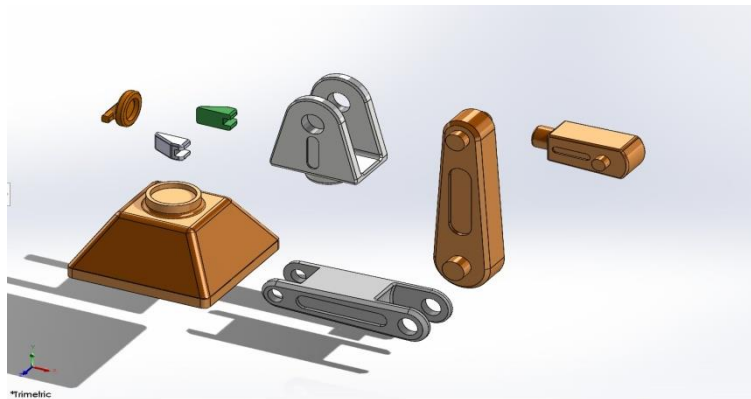

Fig. 1: Assembling parts of Manipulator
- Annotate the drawings with part numbers, dimensions, and other relevant information as shown in Fig 1.